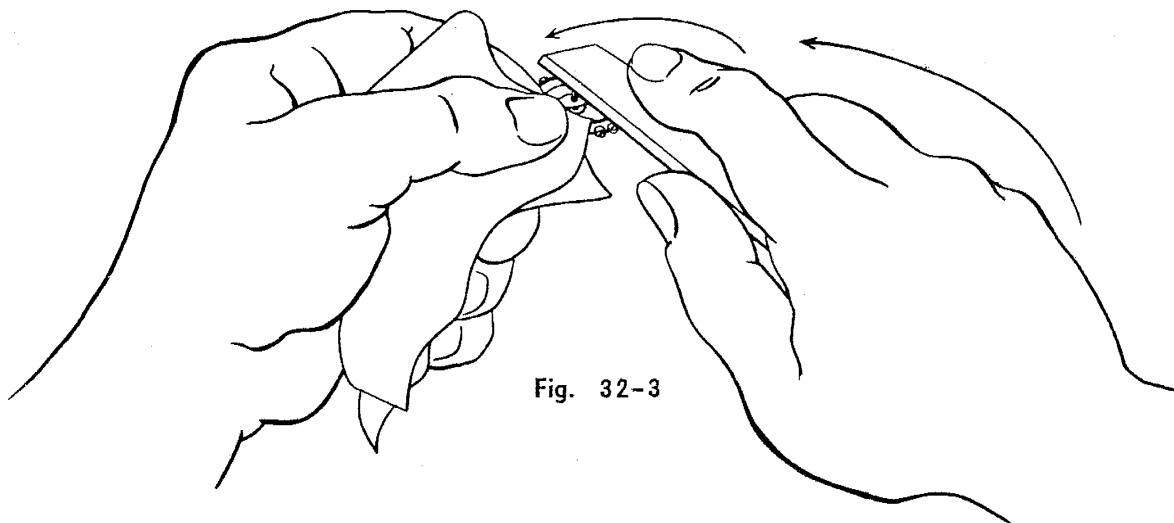

Fig. 32-3
43. Clean and dry all parts of watch. (Lesson #10) Repolish top of balance rim using small chamois buff and rouge. After the balance has been thoroughly cleaned and dried, polish the upper side of rim with a circular motion as in figure 32-3. The buff can be either chamois or leather and the wheel should be held between the fingers with watch paper. Do not use any pressure. Remove traces of rouge with soft dry brush.